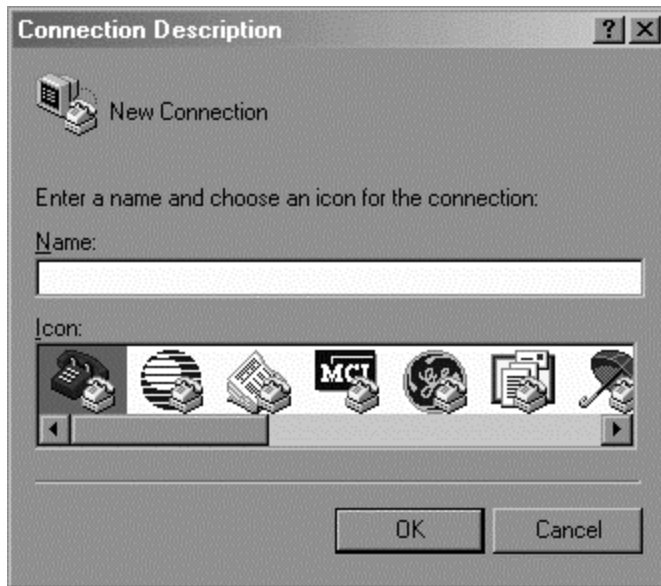

Figure 6. HyperTerminal New Connection Window
1. Press **Start-> Programs-> Accessories-> Communications-> HyperTerminal** to open HyperTerminal. For older computers you may find the HyperTerminal folder in the Accessories folder. The Connection Description screen will be displayed. (See Figure 6)